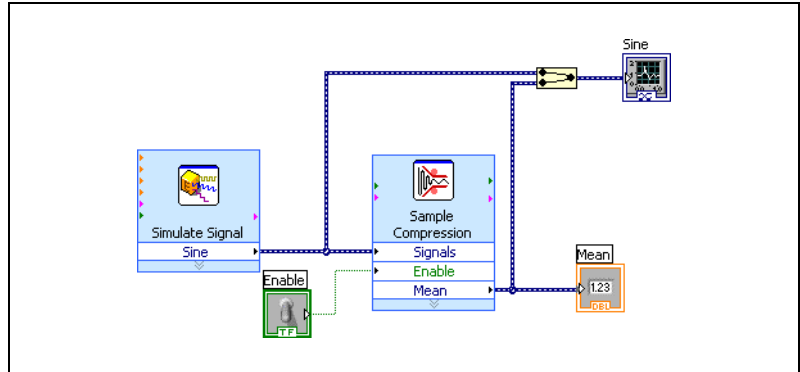

Figure 3-2. Block Diagram of the Reduce Samples VI
- Arrange the objects on the block diagram so they appear similar to Figure 3-2.